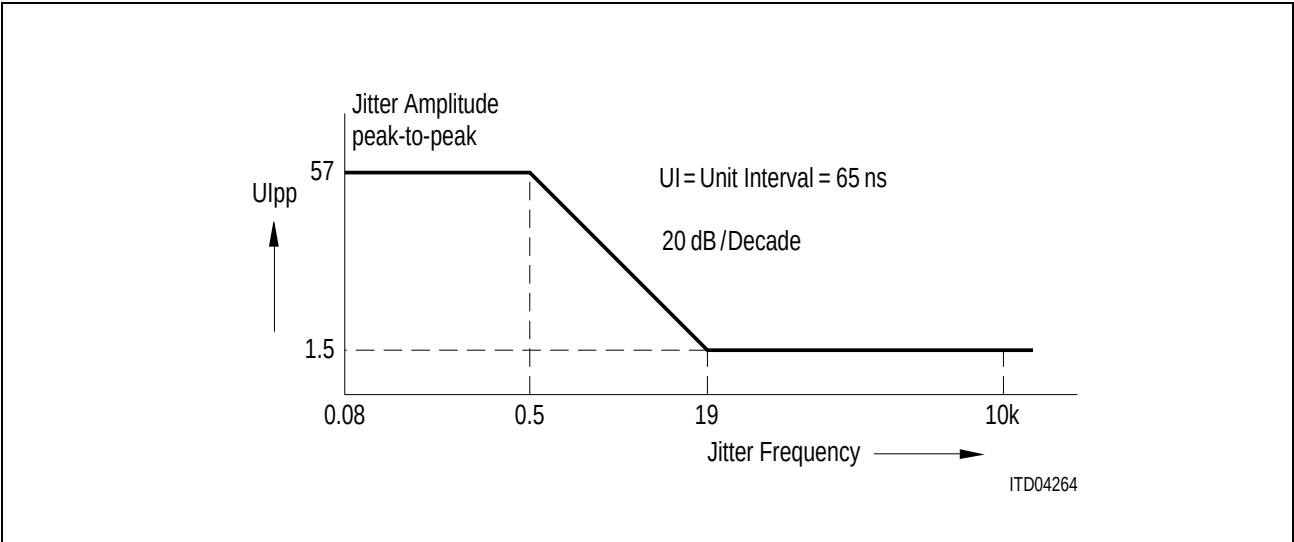

Figure 121    Maximum Sinusoidal Input Jitter of Master Clock 15.36 MHz
- Jitter (peak-to-peak) see Figure 121, page 282